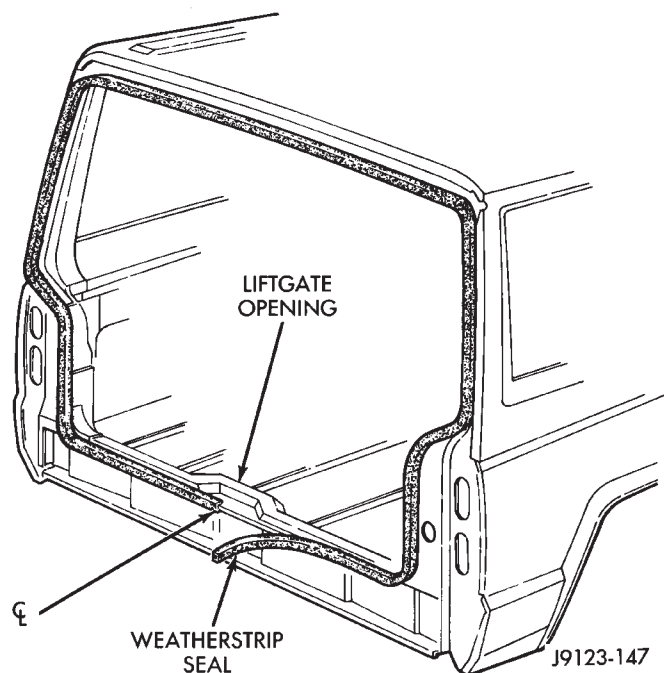

Fig. 95 Liftgate Weatherstrip Installation
- (1) Position weatherstrip seal in the opening with the left end of the seal at the opening centerline. Install the seal in a clockwise direction.
- (2) Move to the left and mate the seal with the bottom-left flange (Fig. 95).
- (3) Move upward and mate the seal with the left-side flange.
- (4) Move to the right and mate the seal with the top-left roof flange.
- (5) Seat the installed part of the seal with a roller. Move the roller from the left-bottom end of seal to the top-left half of the seal.
- (6) Move to the right and mate the seal with the top-right roof flange.
- (7) Move downward and mate the seal with the right-side flange.
- (8) Move to the left and mate the seal with the bottom-right flange.
- (9) Center and butt seal the ends together at the centerline.
- (10) Seat the remaining part of the seal with a roller. Move the roller the from top-left half of the seal to the right-bottom end of the seal.